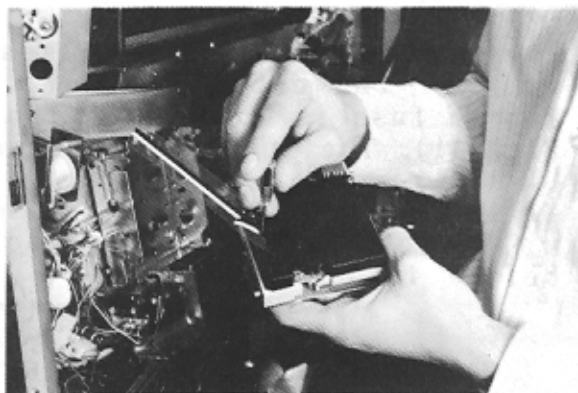

Fig. 40
2. Locate the adjustment pot and LED on the coin acceptor (see Fig. 40).